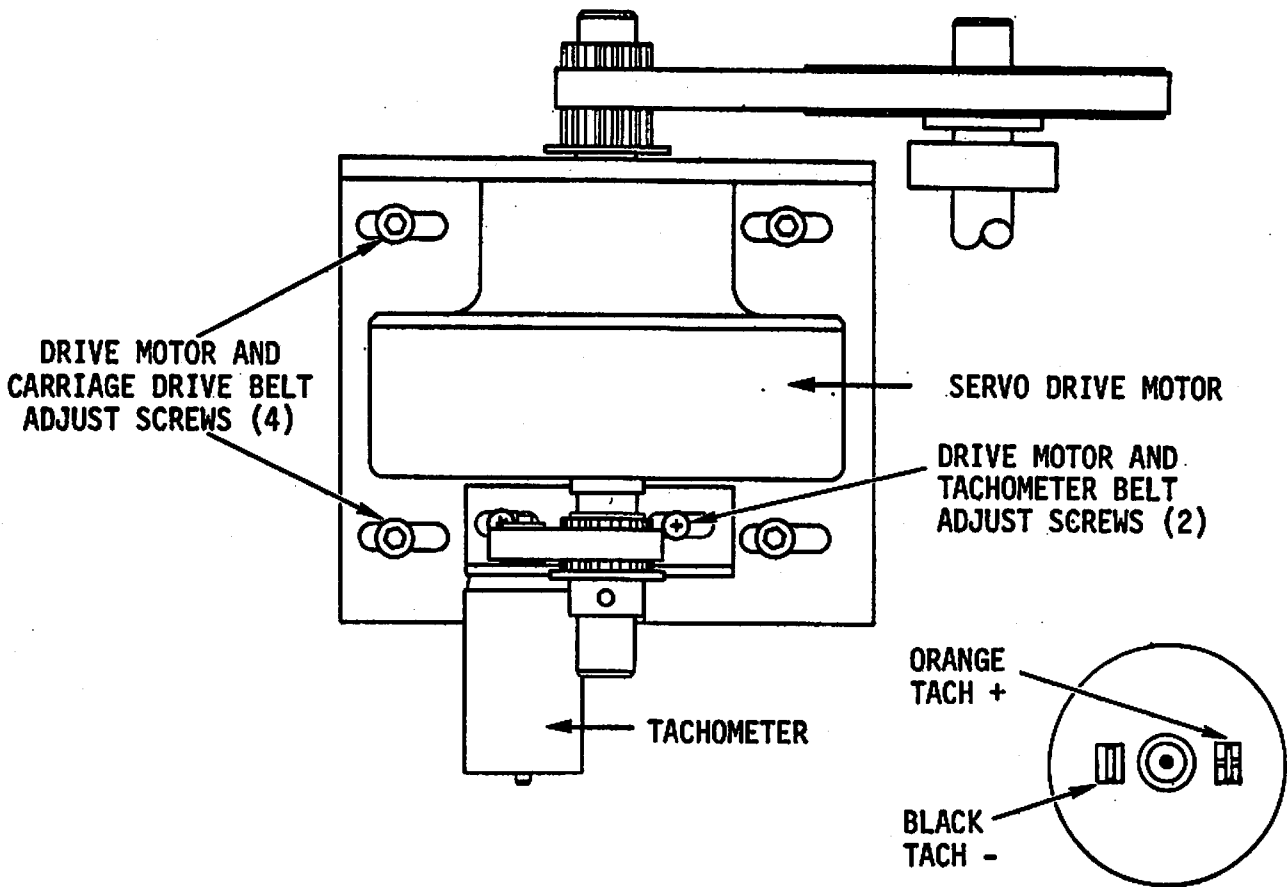

FIGURE 5-31 DRIVE MOTOR AND TACHOMETER BELT ADJUSTMENTS
- 1) **Drive Motor and Tachometer Belt - Loosen two Phillips screws under tachometer and move it in desired direction as shown in Figure 5-31.**
- 2) **Drive Motor and Carriage Drive Belt - Loosen four Allen screws holding tachometer/servo assembly and move assembly in desired direction. See Figure 5-31.**